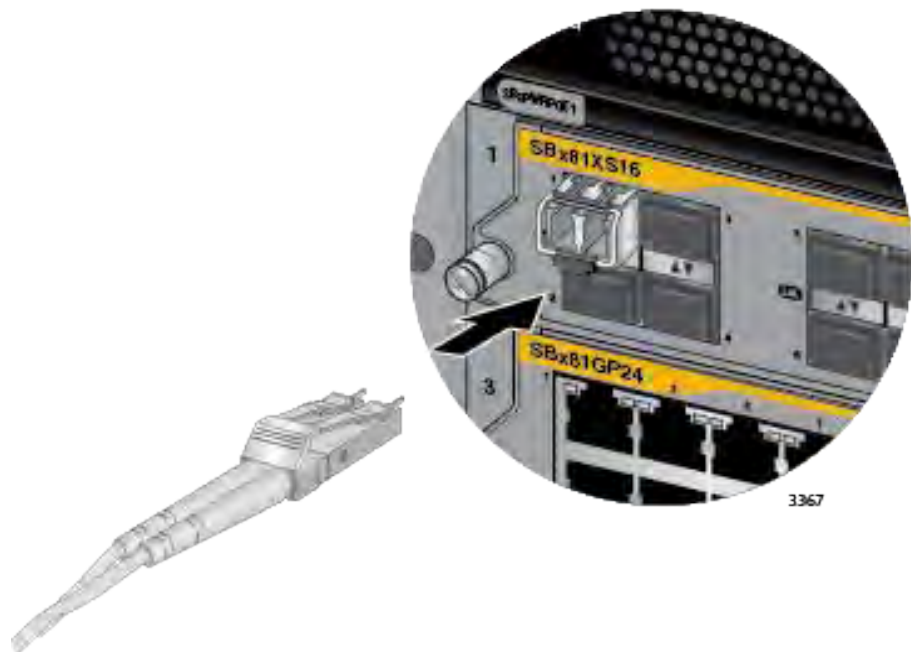

Figure 105. Attaching a Fiber Optic Cable to a Transceiver in the AT-SBx81XS16 Line Card
5. Connect the fiber optic cable to the port on the transceiver, as shown in Figure 105. The connector should snap into the port.